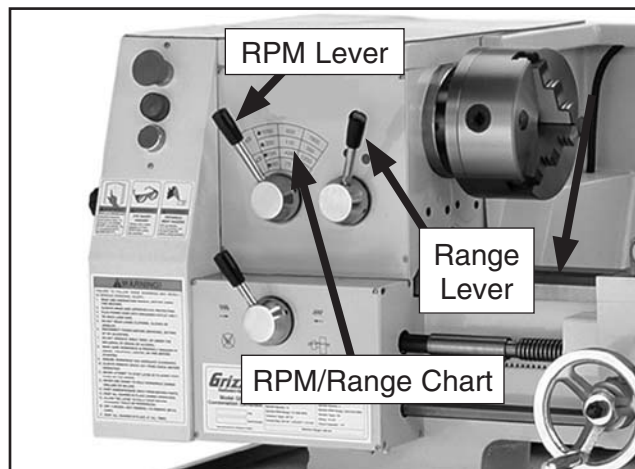

Figure 32. Spindle speed selector levers.
6. Move the levers (**Figure 32**) to get the RPM range that is closest to your calculated RPM: